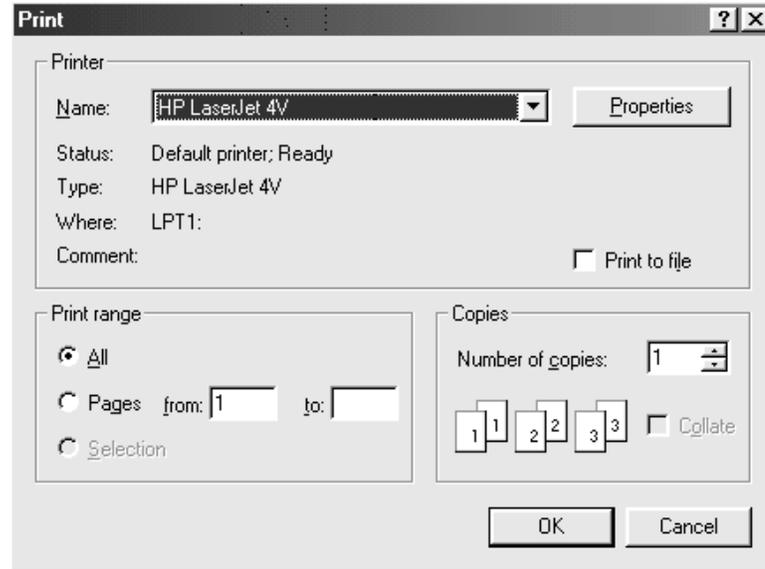

Figure 6-6. *Print StatReporter Dialog Box*
2. Choose FILE... PRINT... from the Menu bar to display the Print dialog box (see Figure 6-6).